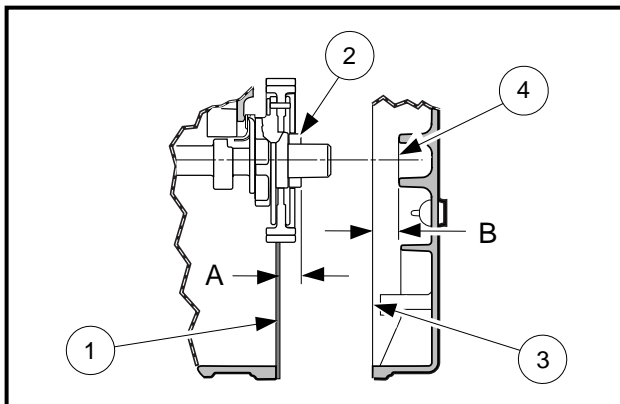
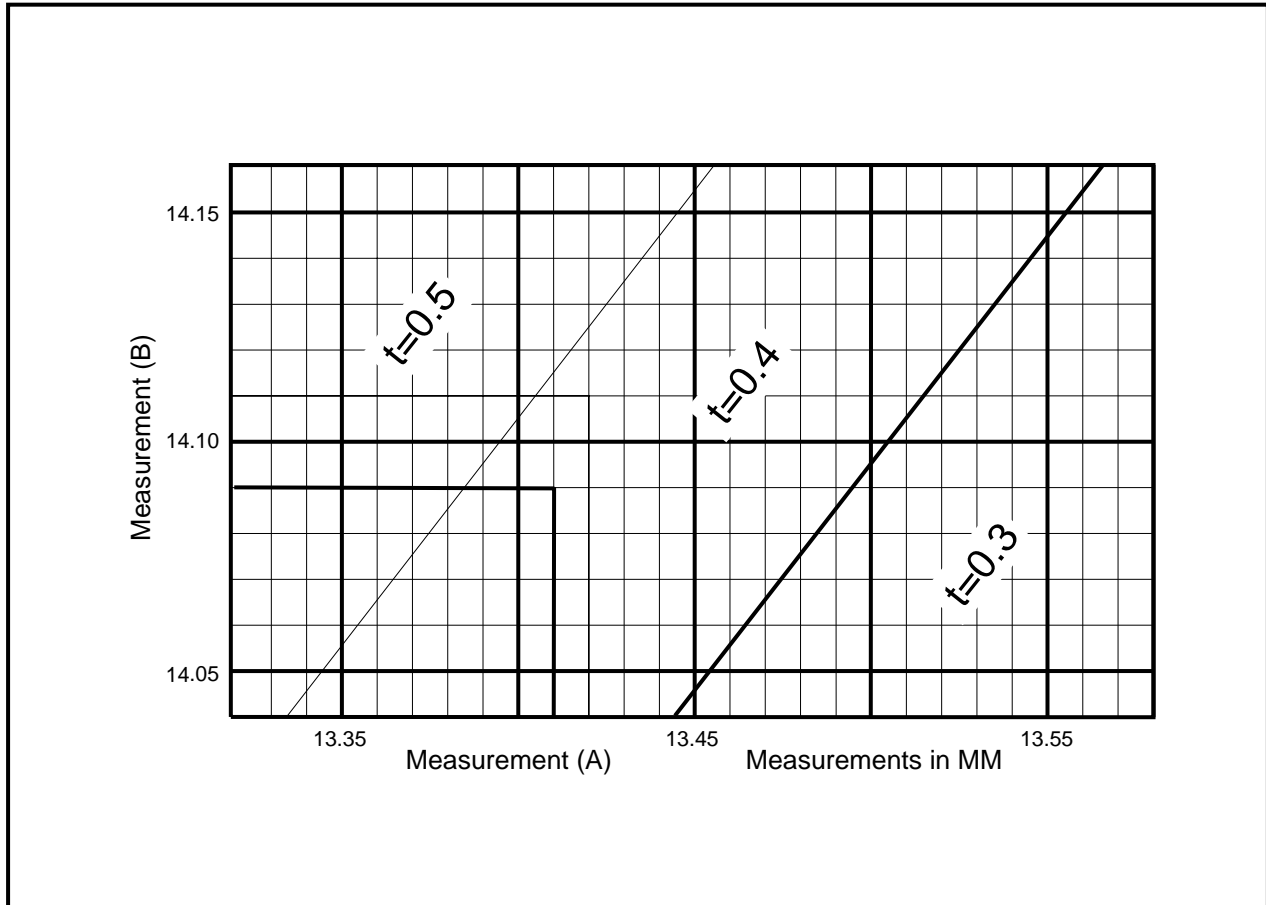

Figure 13-103 Measurements to be Recorded for Camshaft Shim Table
Figure 13-105 Camshaft Shim Table
- With the gasket (1) installed on the crankcase, measure from the gasket surface to the cam gear surface (2). Record this measurement (Figure 13-103, Page 13-46).
- Measure from the crankcase cover (3) mounting face to the camshaft bearing inner end (4).
- Locate the measurements on the Camshaft Shim Table. Follow the lines to where the recorded measurements intersect (Figure 13-105, Page 13-47).